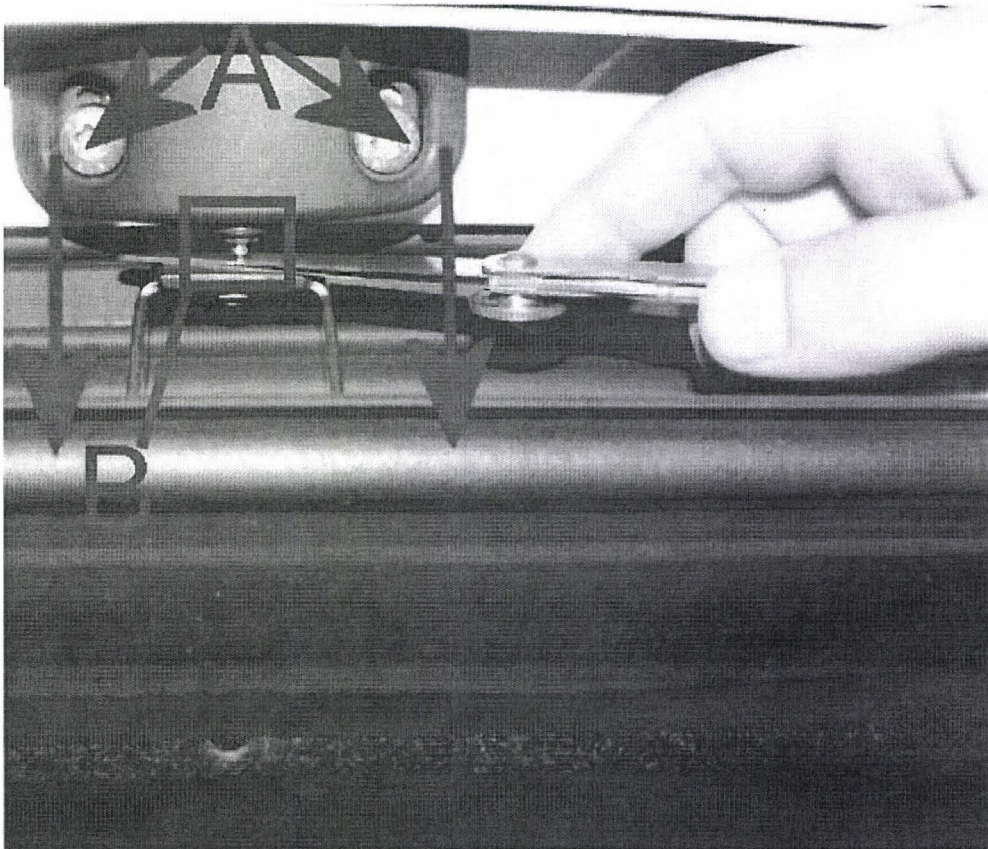

Figure 8
-Referring to Figure 8, slacken the two fixing screws (point A)
-Insert feeler blades measuring 0.85 mm (Figure 8 point B) between the plunger and the stop and move the switch downwards
-Torque tighten the fixing screws to 3.5Nm (Figure 8 point A)